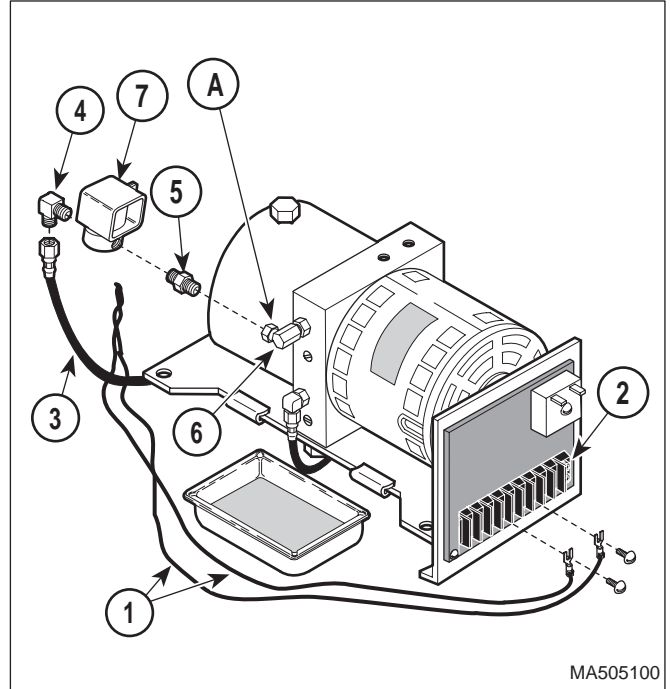

Figure 4-6. Anti-cavitation Solenoid Valve Removal / Installation
- (1) Unplug the table power cord from outlet.
- (2) Remove the motor cover assembly (Refer to para 4.2).
- (3) Disconnect the anti-cavitation solenoid valve wires (1, Figure 4-6) from the terminal block (2) and pull them thru the wire hole in the control panel.
- (4) Disconnect hose assembly (3) from elbow (4).
- (5) Using a wrench to hold male connector (5) stationary, loosen jam nut (A) of the elbow (6). Disconnect male connector (5) from elbow (6).
- (1) Coat the threads of the elbow (4, Figure 4-6) and male connector (5) with pipe thread tape or sealant and install them on the anti-cavitation solenoid valve (7).
- (2) Install anti-cavitation solenoid valve (7) on bracket (9) and secure with two screws (8).
- (3) Connect the hose assembly (3) to the elbow (4).
- (4) Coat the threads of the male connector (5) with pipe thread tape or sealant.
- (5) Connect the elbow (6) to the male connector (5) and secure by tightening the jam nut (A).
- (6) Connect the two anti-cavitation solenoid valve wires (1) to the terminal block (2).